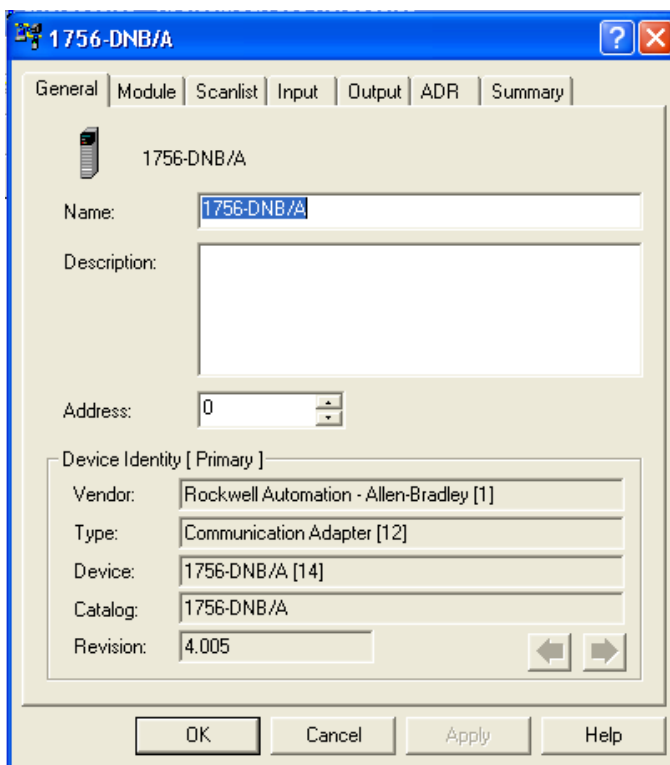

Figure 5-17: Scanner Properties Dialog: Initial View
- The scanner's properties dialog box will appear, as in Figure 5-17.